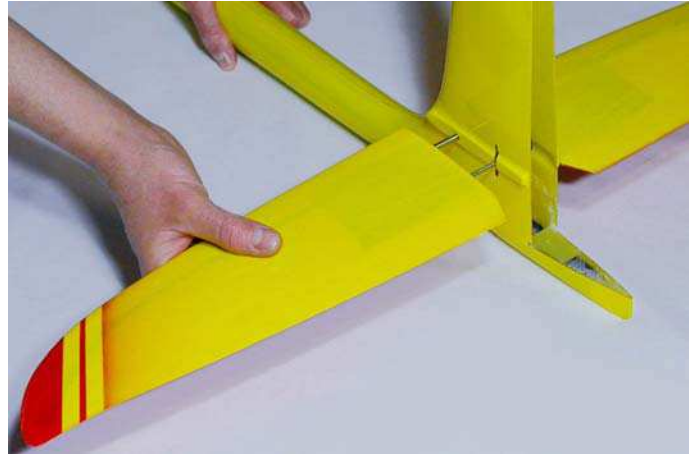

Fig.23: Inserting tailplanes.
- insert the two tailplanes fitting the rods with the tailplanes holes (see figure 23);